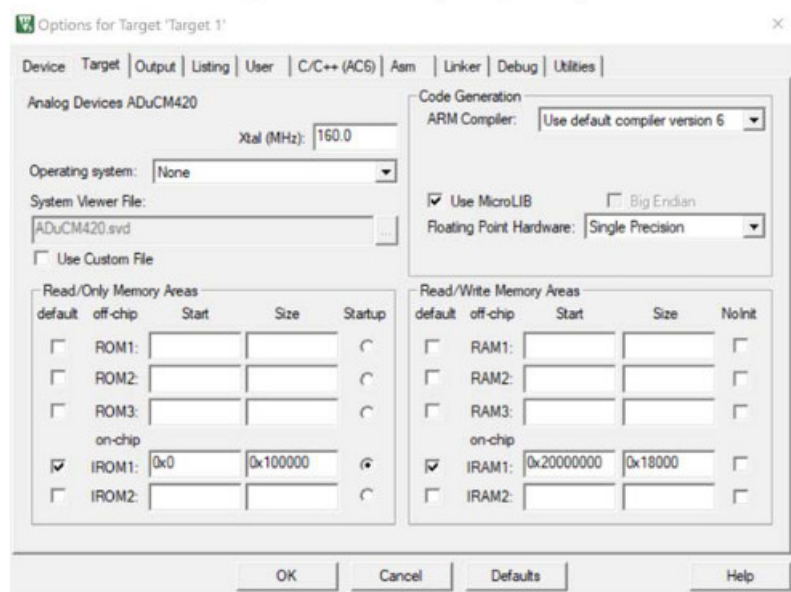
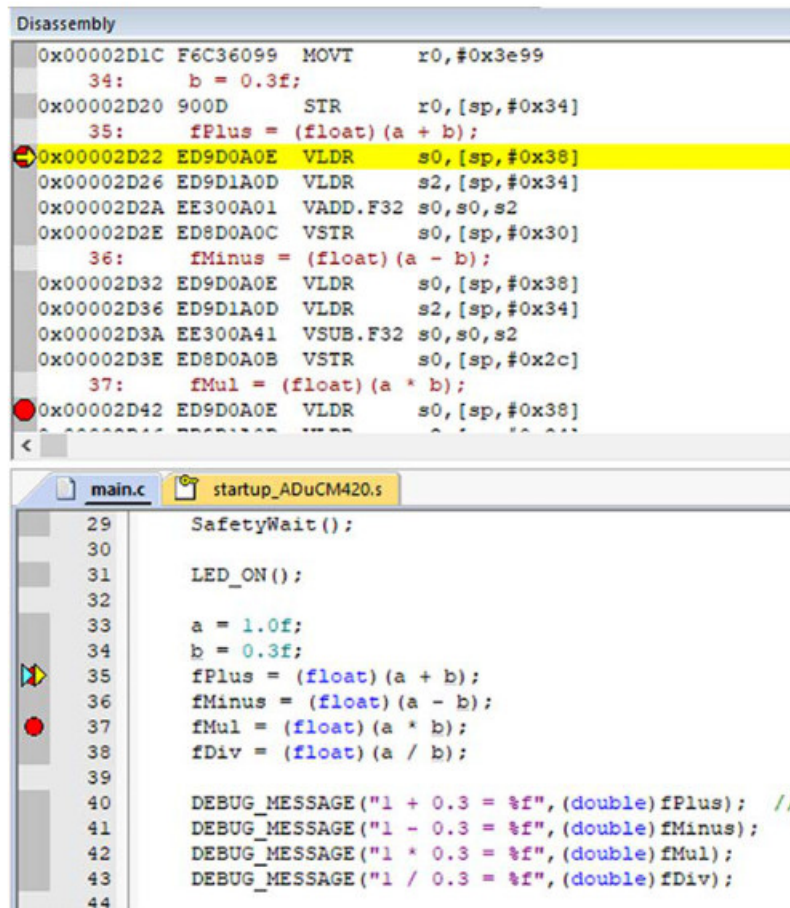

Figure 28. Keil General Options
Figure 29. Keil FPU Example Program Output
2. Selecting the Configure Flash Tools option opens the window shown in Figure 28. Click the Target tab, and ensure the Floating Point Hardware dropdown box is set to the Single Precision option, as shown in Figure 28.
3. After establishing the settings shown in Figure 28, run the FPU example code from the C:\Analog Devices\ADuCM420\examples\M420_FPU folder. In debug mode, the output Disassembly window displays fractional values of the variables, as shown in Figure 29.